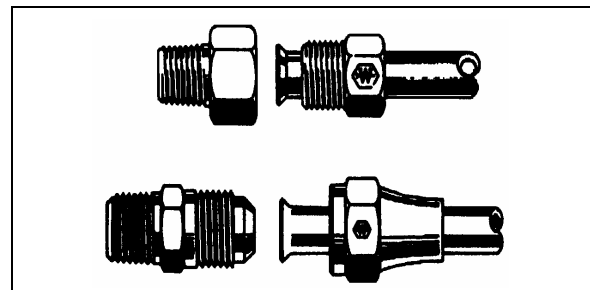

FIGURE 47: HOSE FITTINGS
**45° Flare and Inverted Flare:** Tighten assembly with a wrench until a solid feeling is encountered. From that point, tighten 1/6 turn (Fig. 47).